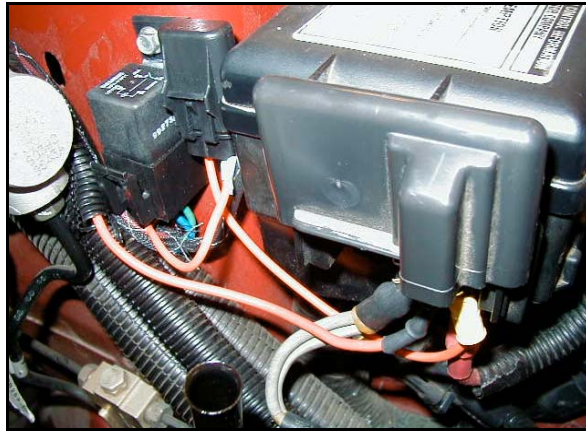

Figure 9
1. Uncoil the main wiring harness (19) and lay the unit out in the vehicle engine bay.
2. Mount the 30 amp relay socket securely to the vehicle. Figure 9 shows the place where it is designed to mount. Sheet metal screws are included to mount the relay.
3. Attach the relay (20) to the socket.
4. Install the 20 amp fuse (21) in the fuse holder.